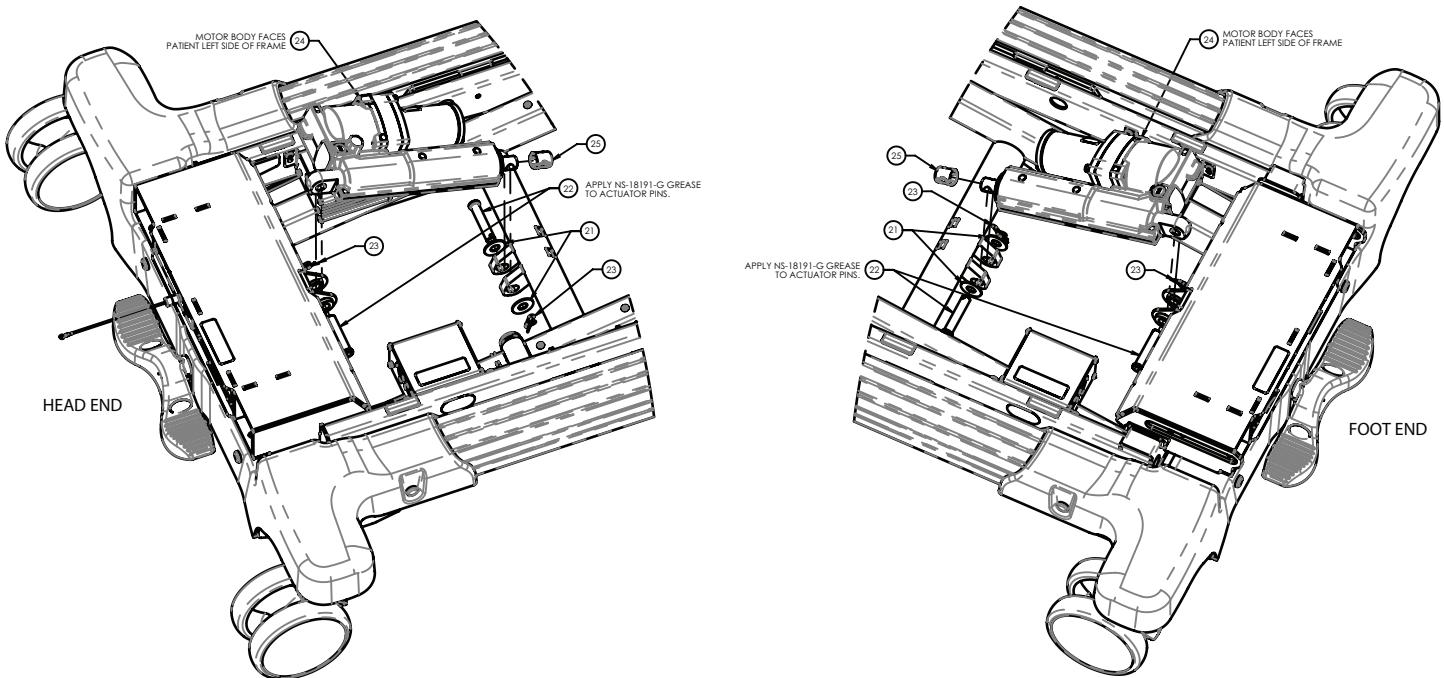

Figure 32 – Lift actuator replacement
- 10. Using needle nose pliers, remove both rue ring retaining clips (23) from the clevis pins (22) that attach the actuator (24) to the litter weldment and lift weldment (Figure 32).
- 11. While supporting the actuator (24) with one hand, remove the head end clevis pin (22) and foot end clevis pin (22) and then lower the actuator down (Figure 32).